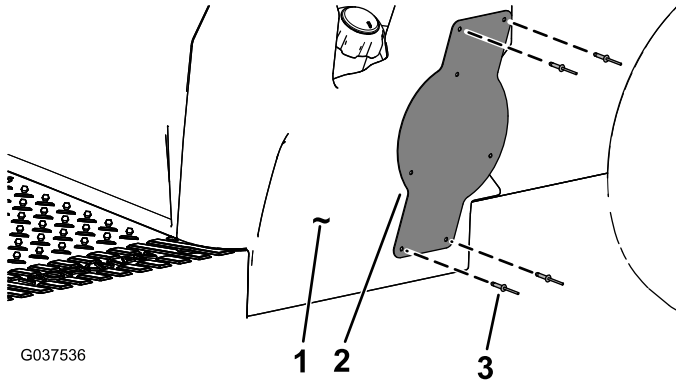

Figure 12
7. Install the plate-mount bracket to the seat base side using 4 pop rivets (3/16 x 0.92 inch) as shown in Figure 12.